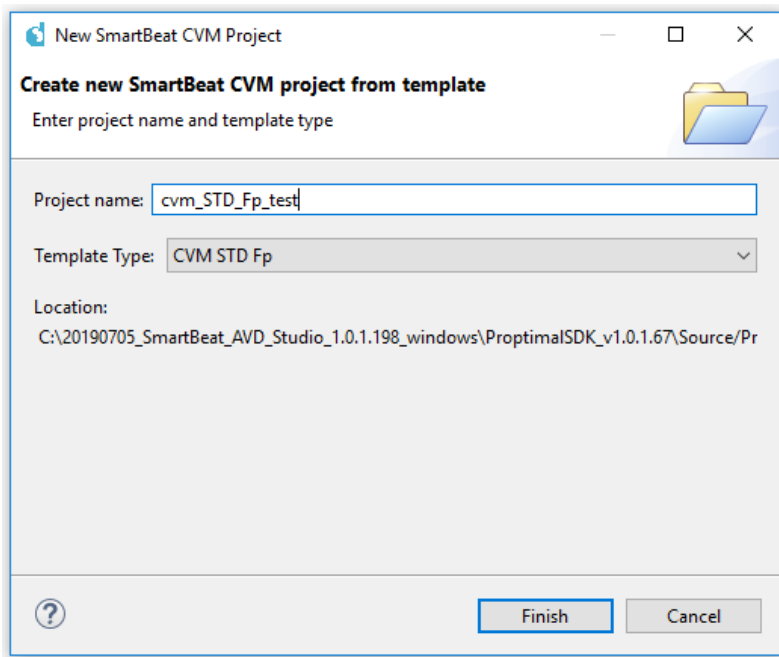

Figure 24: New Project Setup (Voice Conferencing stack)
- 4. Select the "CVM STD Fp" template, type and choose a name for the project (Figure 24).